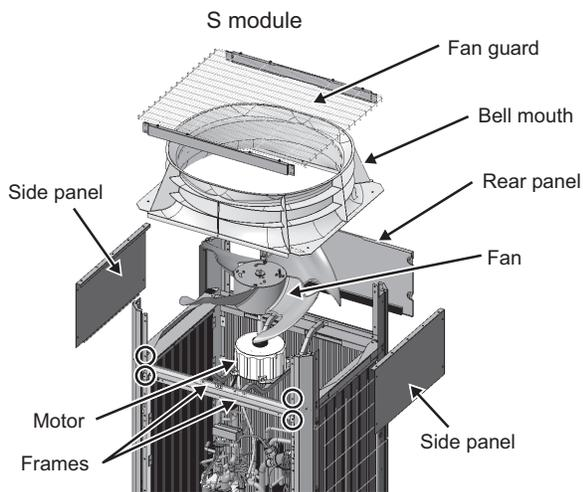
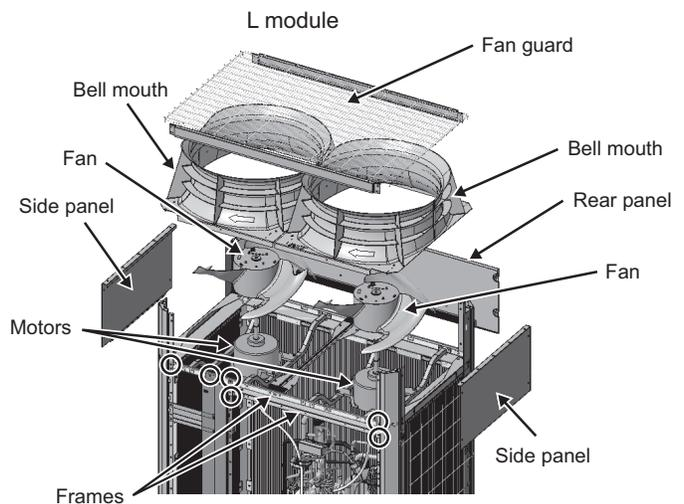

Fig. 2
Fig. 3
Refer to "Maintenance Procedures for the Heat Exchanger" for details. (Fig. 2)
(3) Remove the frames. (Four screws on S module: Fig. 2, six screws on L module: Fig. 3)